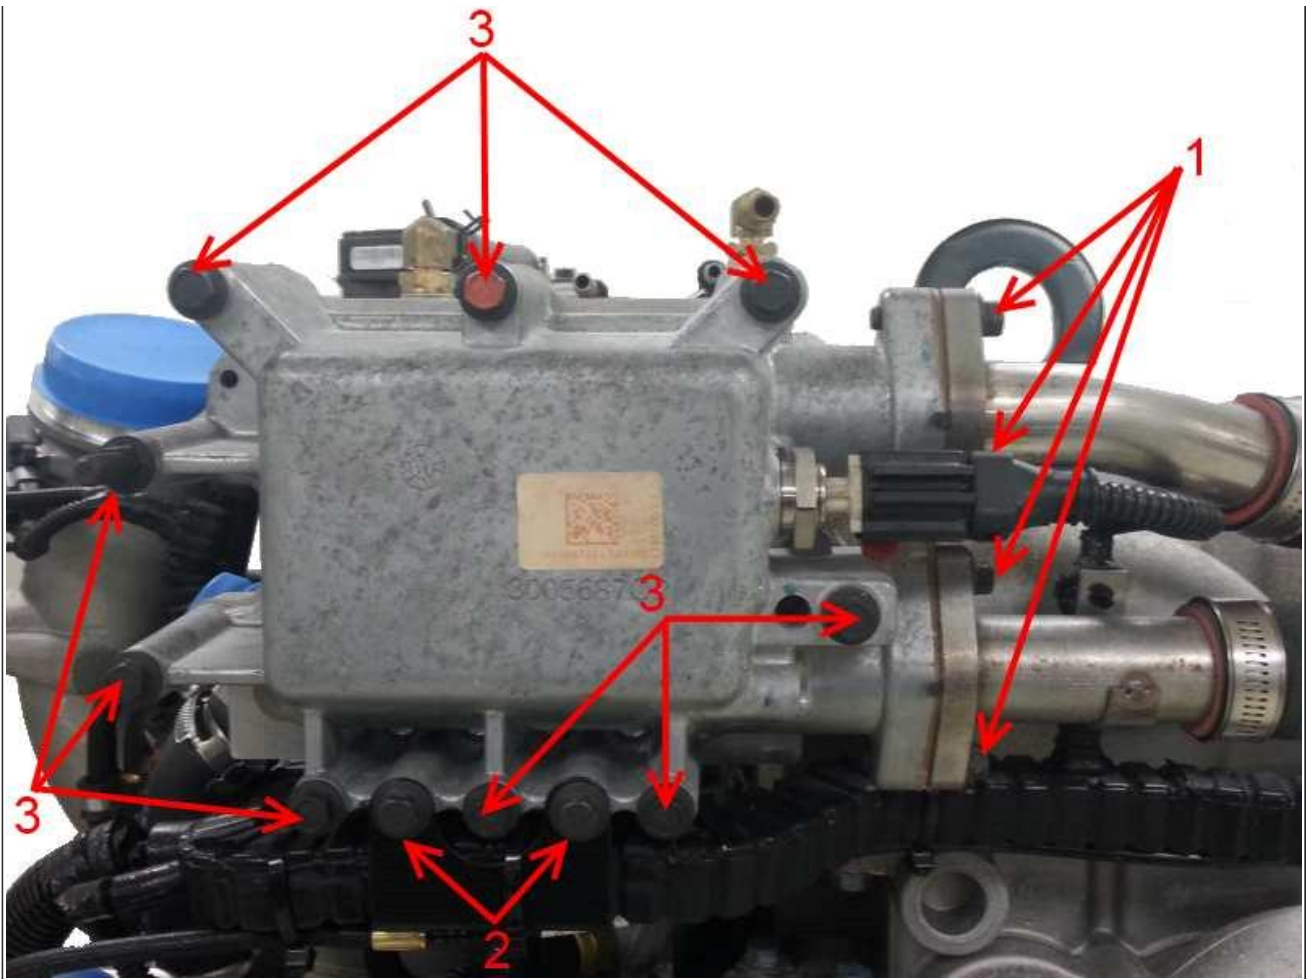

Figure 11: EGR Outlet Cover, Bolts and Tubes
24. Remove the four bolts holding the outlet tubes to the front cover--discard the gaskets (**Figure 11**, Item 1).
25. Remove the two bolts holding the engine harness, and reposition as necessary, for front cover removal (**Figure 11**, Item 2).
26. Remove the eight bolts and one stud bolt from the front cover, and remove (**Figure 11**, Item 3).